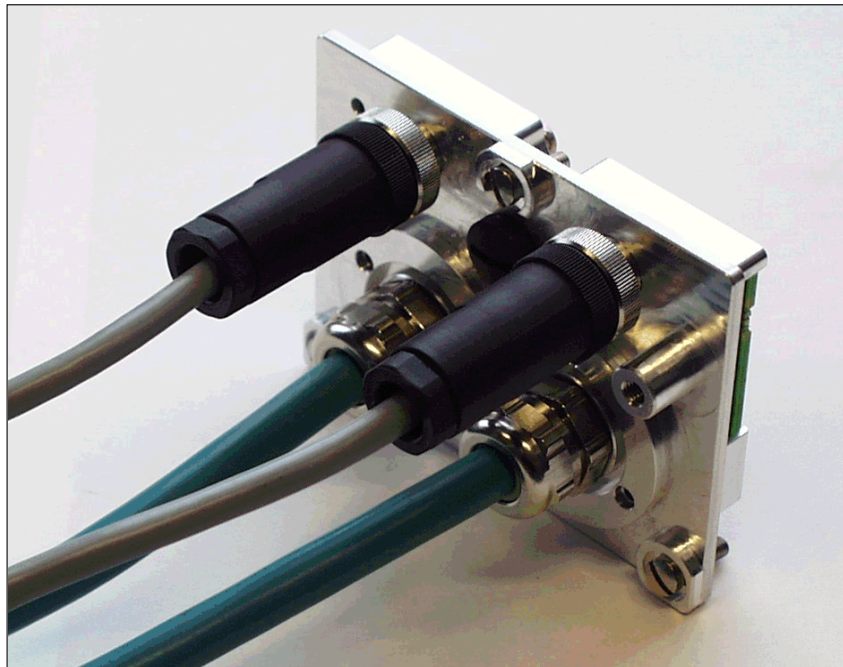

Fig. 2-30 PROFIBUS unit which has been connected up: Front view
- Front side → refer to Fig. 2-30